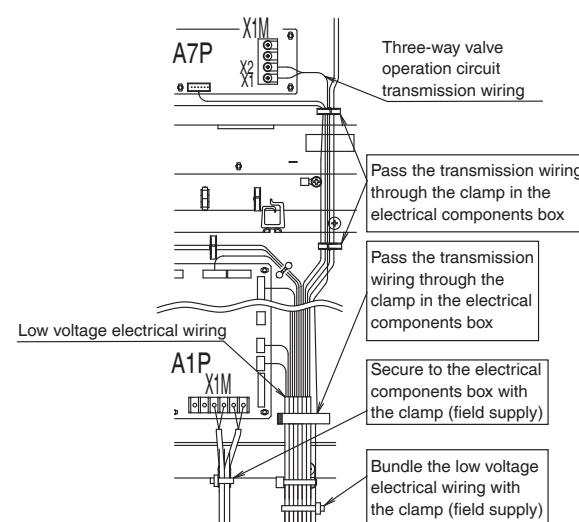
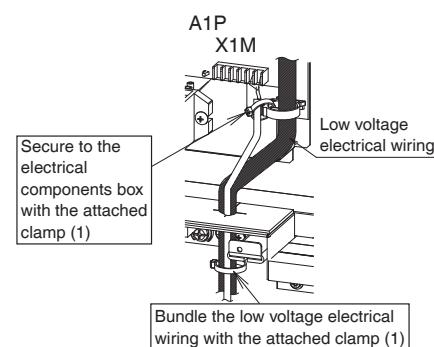

Fig. 21 Secure the transmission wiring
Fig. 22 Secure the transmission wiring
- In the electrical components box, secure the transmission wiring to the electrical components box with the clamps as in Fig. 21 and Fig. 22. Use the supplied clamps for the heat source unit and separately prepare clamps for the cascade unit.